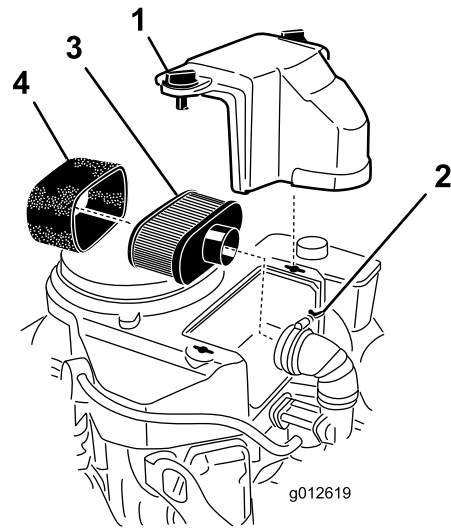

Figure 25
6. Install hairpin cotter between drive levers and neutral locks and into clevis pins (Fig. 25).
3. Clean around the air cleaner to prevent dirt from getting into the engine and causing damage (Figure 25).
4. Unscrew the cover knobs and remove the air cleaner cover (Figure 25).
5. Unscrew the hose clamp and remove the air cleaner assembly (Figure 25).
6. Carefully pull the foam element off the paper element (Figure 25).
1. Do not clean the paper filter, replace it (Figure 25).
1. Carefully slide the foam element onto the paper air cleaner element (Figure 25).
2. Place the air cleaner assembly onto the air cleaner base and secure it with the 2 wing nuts (Figure 25).
3. Place the air cleaner cover into position and tighten the cover knob (Figure 25).